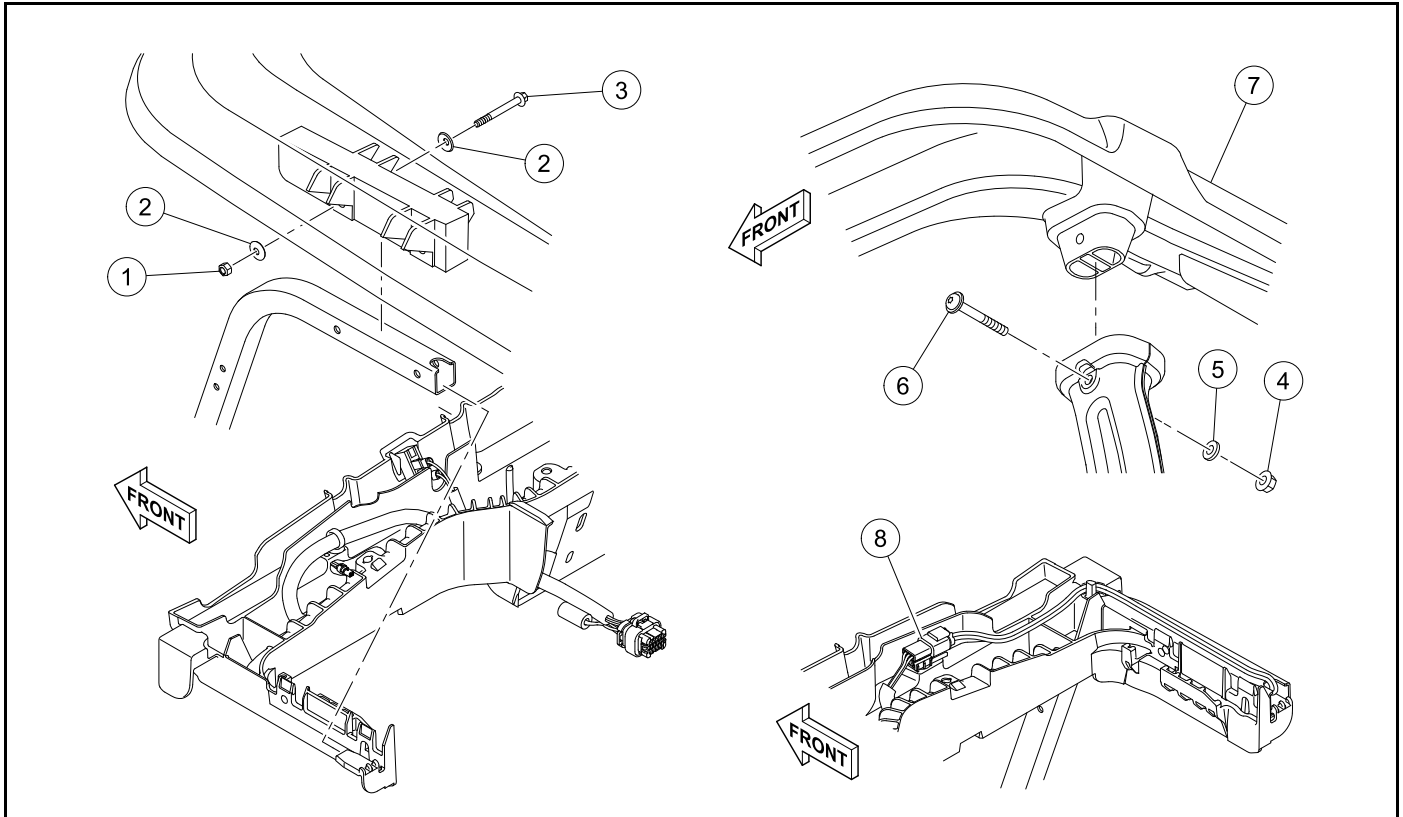

Figure 4-21 Two-Passenger Canopy With Display Unit Installation
3. Connect the display unit harness (11).
4. Install the Visage display unit (VDU) (10) onto the display unit support.
5. Install the screws (9). Tighten the screws to 24 lb·in (2.7 N·m).
7. Connect the strut harness to the canopy harness (8) (Figure 4-21, Page 4-25).